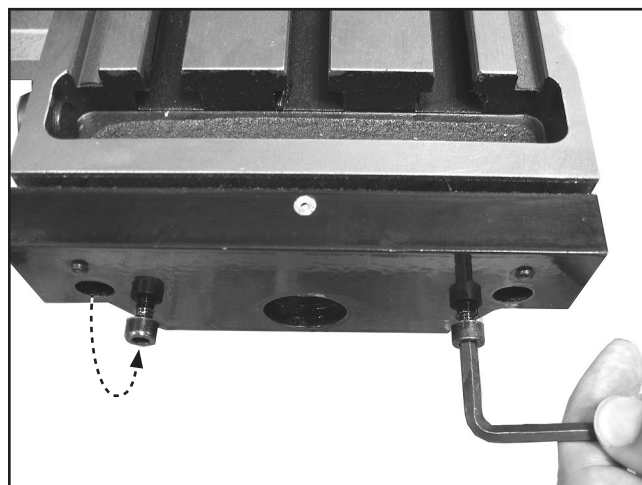

Figure 8. End plate removal.
11. Thread the cap screws into the power feed mounting holes (**Figure 8**), and in an alternating fashion, tighten the screws to remove the table end plate.